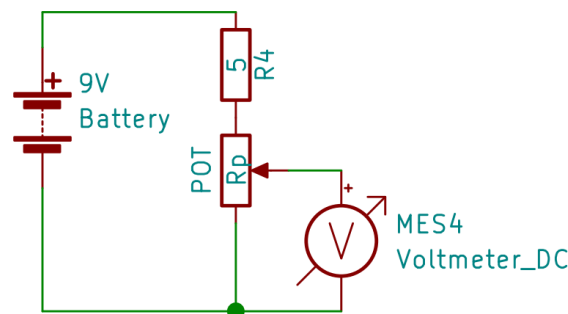

Figure 2: Circuit diagram
Potentiometer put in place of length of wire where length varied via flying wires in Figure 2.
- Construct the circuit as shown in Figure 2.